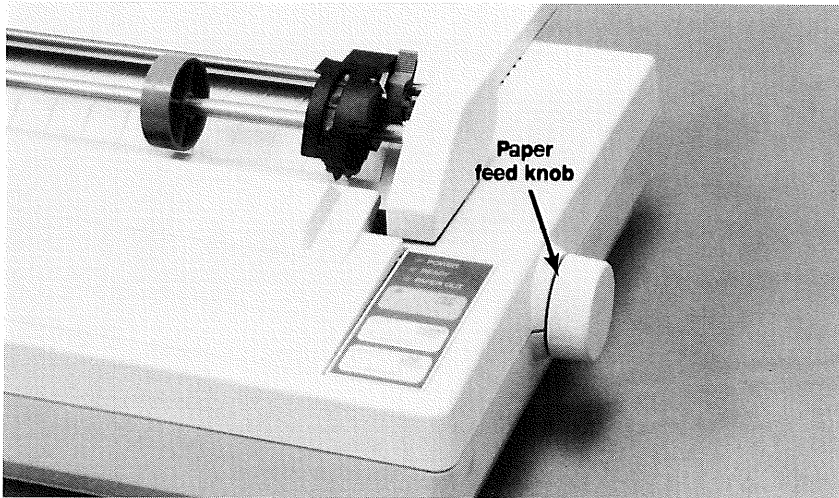

Figure 14.
21. Install the paper feed knob by pushing it onto the end of the paper roller bar. See Figure 14.